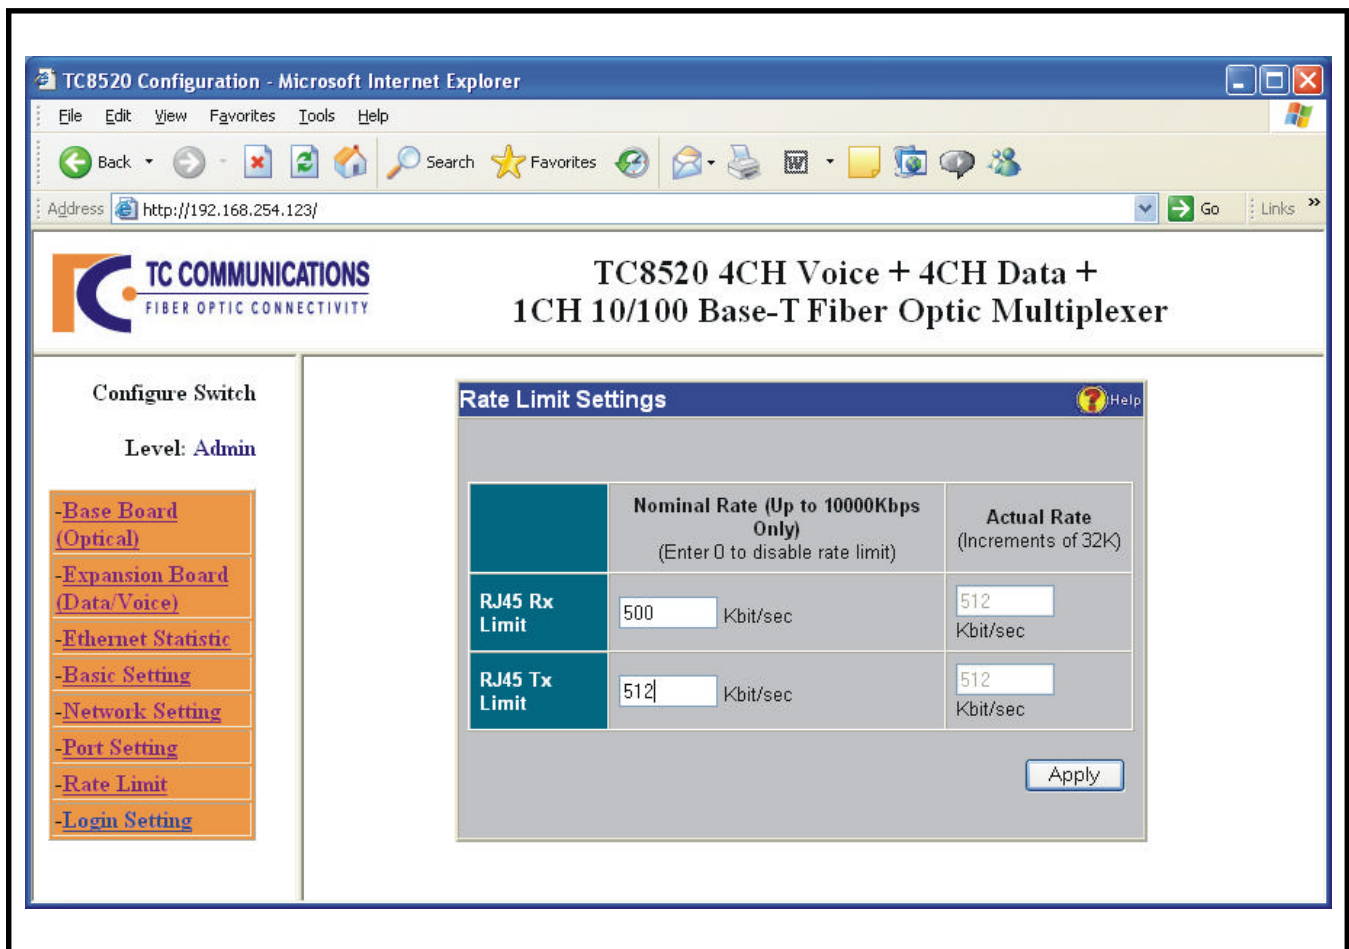

Figure 26. TC8520's Rate Limit Settings
**Example:** Figure 26 below, shows how to set the Rx (Ingress) and Tx (Egress) rate limiting settings for the Ethernet port. Note that for the Rx Limit setting under "Nominal Rate," 500Kbps was entered, and the Rx Limit under the "Actual Rate" field automatically displays the next higher increment on the rate limit which is 512Kbps. On the other hand, the Tx Limit setting under the "Nominal Rate," 512Kbps was entered, and the Tx Limit under the "Actual Rate" field automatically displays 512Kbps.